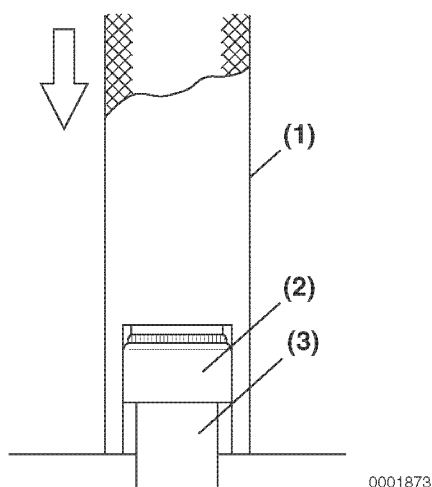

Figure 6-18
1. Oil the lip of the valve stem seal (Figure 6-18, (2)). Using a valve stem seal installation tool (Figure 6-18, (1)), install a new valve stem seal on each of the valve guides (Figure 6-18, (3)).